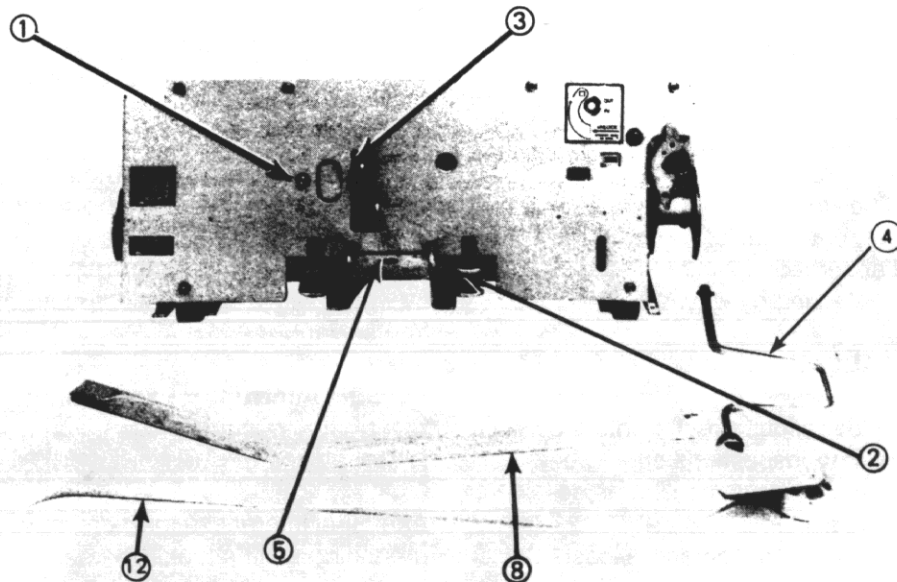

Fig. 3 — Front Circuit Breaker Panel & Accessories
Installing Circuit Breaker into Compartment (See Figs. 3&4)
Turn motor disconnect switch (1, Fig. 3) to "OFF" position.
For installing the circuit breaker into the lower compartment, the fifth wheel is used to position the breaker so that it is lined up with the switchgear. Engage the fifth wheel (12, Fig. 3) with hole (5, Fig. 3). The lift device is required to lift and position the breaker for installation into the upper compartment. Guide and push circuit breaker into compartment until stopped. Again engage racking crank and rotate clockwise until racking mechanism automatically stops at "DISCONNECT" position. (Breaker is now held captive in compartment.)
With the circuit breaker racked to "TEST" position, it should be checked for proper operation by operating all possible means of opening and closing, this includes control switches, relays, etc. Turn motor disconnect switch (1, Fig. 3) to "ON" position to charge the closing springs, and operate the breaker as required.
2. Fully closed breaker (See Fig. 3). Charge the closing springs and turn the motor switch (1) off. Close the breaker. Engage manual charge handle (8) with charging lever (3). During the initial portion of the downward stroke of the handle check to see which direction the closing spring guides (2) move. If this spring guides start to move out then the breaker did not fully close originally. Excess contact pressure or friction can cause this condition and if it cannot be relieved then the factory should be consulted.